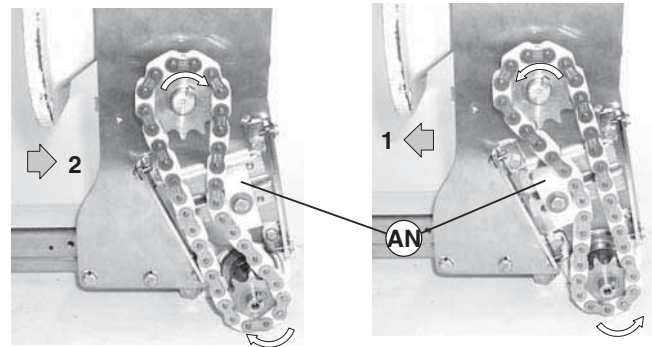

Figure 13
- Depending on conveyor belt travel (direction 1 or 2 of Figure 13), locate timing chain tensioner (AN) as shown. Do not tighten tensioner screw.